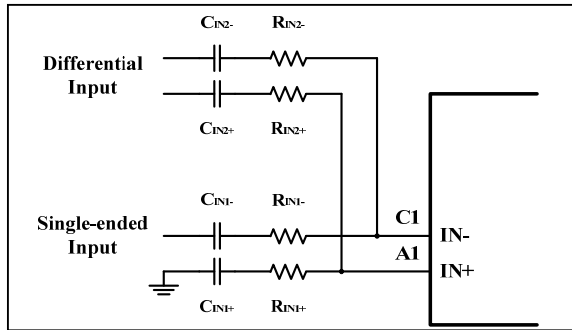

Figure 13 Summing Differential Input and Single-Ended Input Signals
Figure 13 shows how to sum a differential input signal and a single-ended input signal. Ground noise may couple in through IN- with this method. It is better to use differential inputs. The gain for each input source can be set independently by Equations (4) and (5). The corner frequency of the single-ended input is set by C_{IN2}, shown in Equation (6).